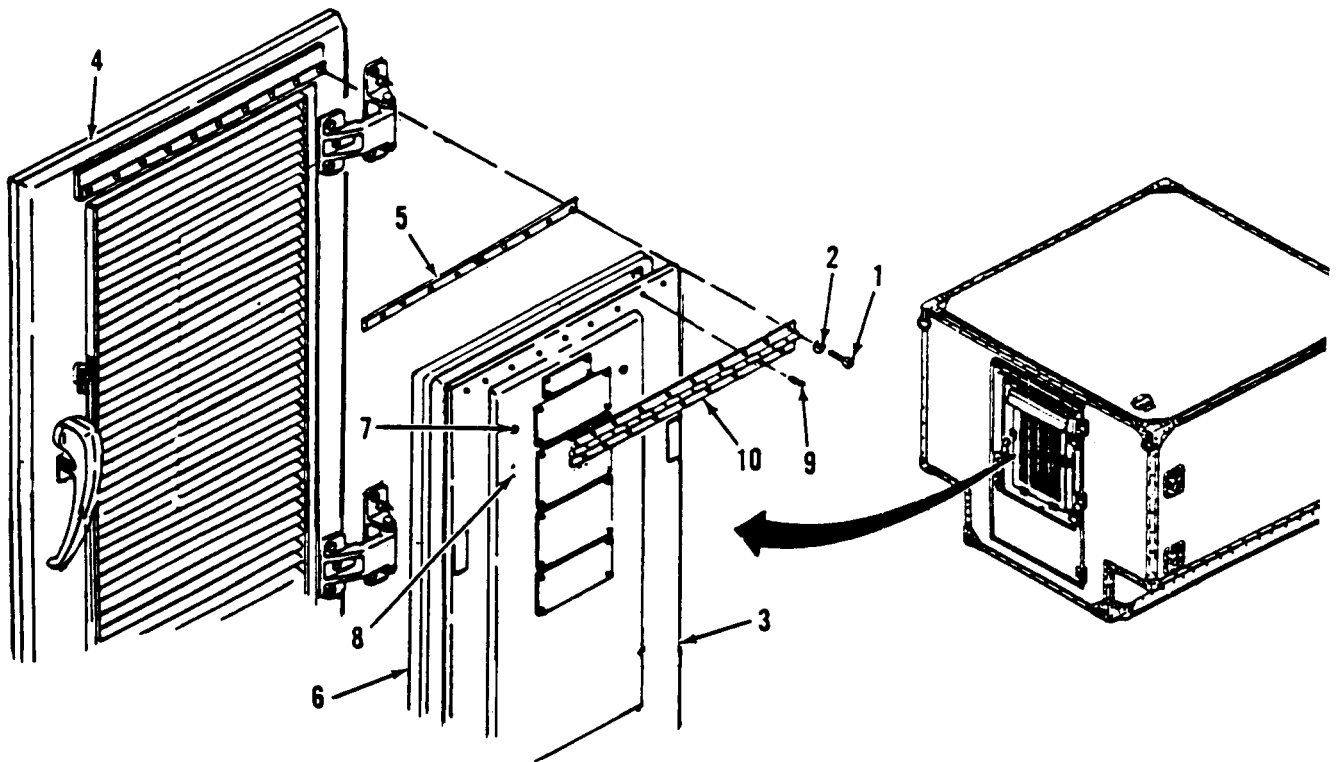

Figure 3-30. Louver Cover Assembly Replacement.
d. Install. (Figure 3-30)
- (1) Clean adhesive residue from gasket track in panel cover, and apply RTV 138 silicone sealer in track groove.